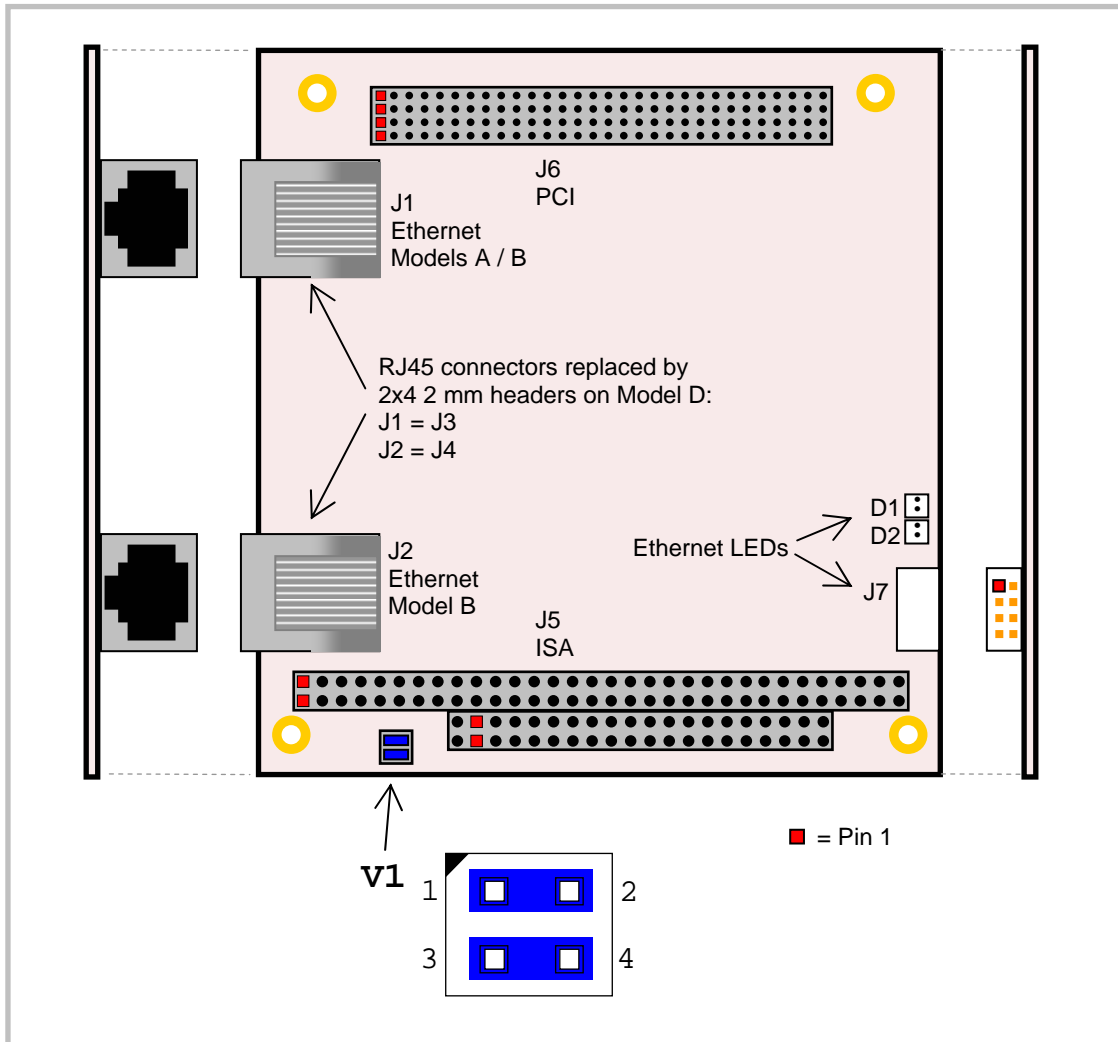

Figure 3. VL-EPM-E2 Connectors and Jumper Block – Top Side
1. Origin is the lower left mounting hole as shown in Figure 3. All coordinates in inches.